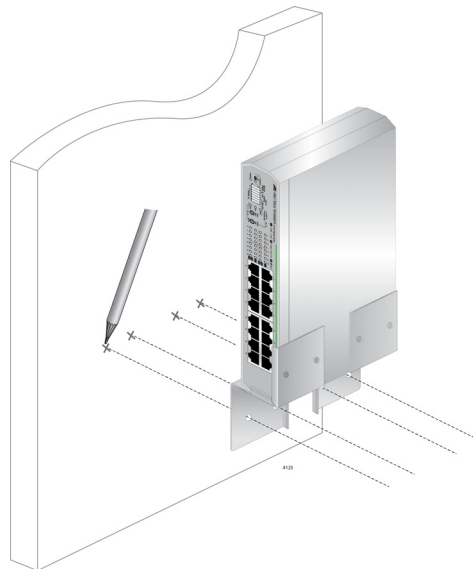

Figure 14. Marking the Screw Hole Locations
3. Have another person hold the switch with the brackets at the wall location where the switch is to be installed, while you use a pencil to mark the wall with the locations of the four holes in the brackets. See Figure 14 as an example.
Figure 14 shows the front panel oriented toward the left side. However, the switch can be mounted on the wall with the front panel facing left, right, up or down.